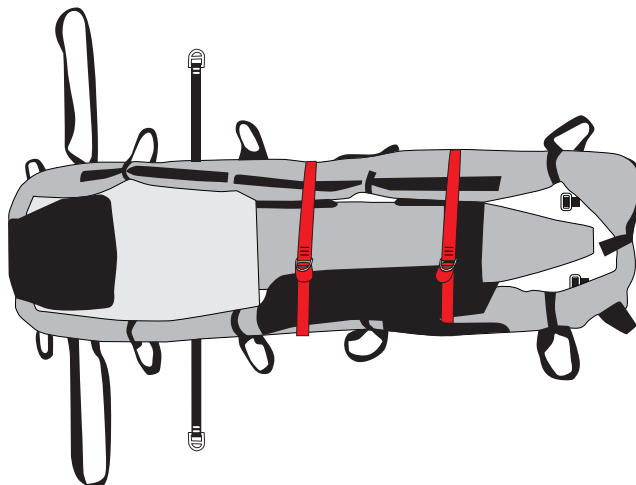

Fig.41
f) fasten the two external straps of the rescue bag (those of the lower part) as in fig. 41,